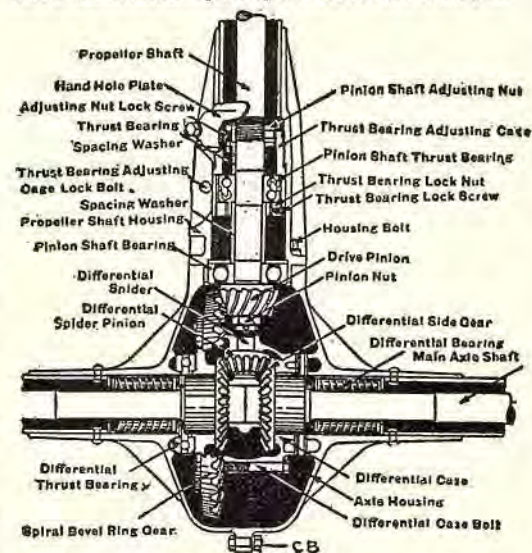

Fig. 38. Sectional view of Chevrolet model "FB" rear axle and differential and drive pinion. To lubricate, use 600W oil.
The Chevrolet model "FB" rear axle. Note that the axle shaft is keyed to the hub (Fig. 37) and the bearing runs between the housing and wheel hub, and not on the axle shaft. The inner ends of axle shafts are supported by heavy-duty roller bearings (Fig. 38).
Remove the four propeller-shaft housing bolts, clamping the housing to the axle housings, and lift the assembly off (see Fig. 38).
Remove hand hole plate shown in Figs. 38, 39. Clamp housing in a vise with hand hole on top. Remove the thrust-bearing adjusting cage lock bolt.
The axle housings (H) (Fig. 41) are in two halves, right and left, held together by a number of clamping bolts (CB) (Fig. 38). Remove these bolts and slide the axle housing off the shafts.